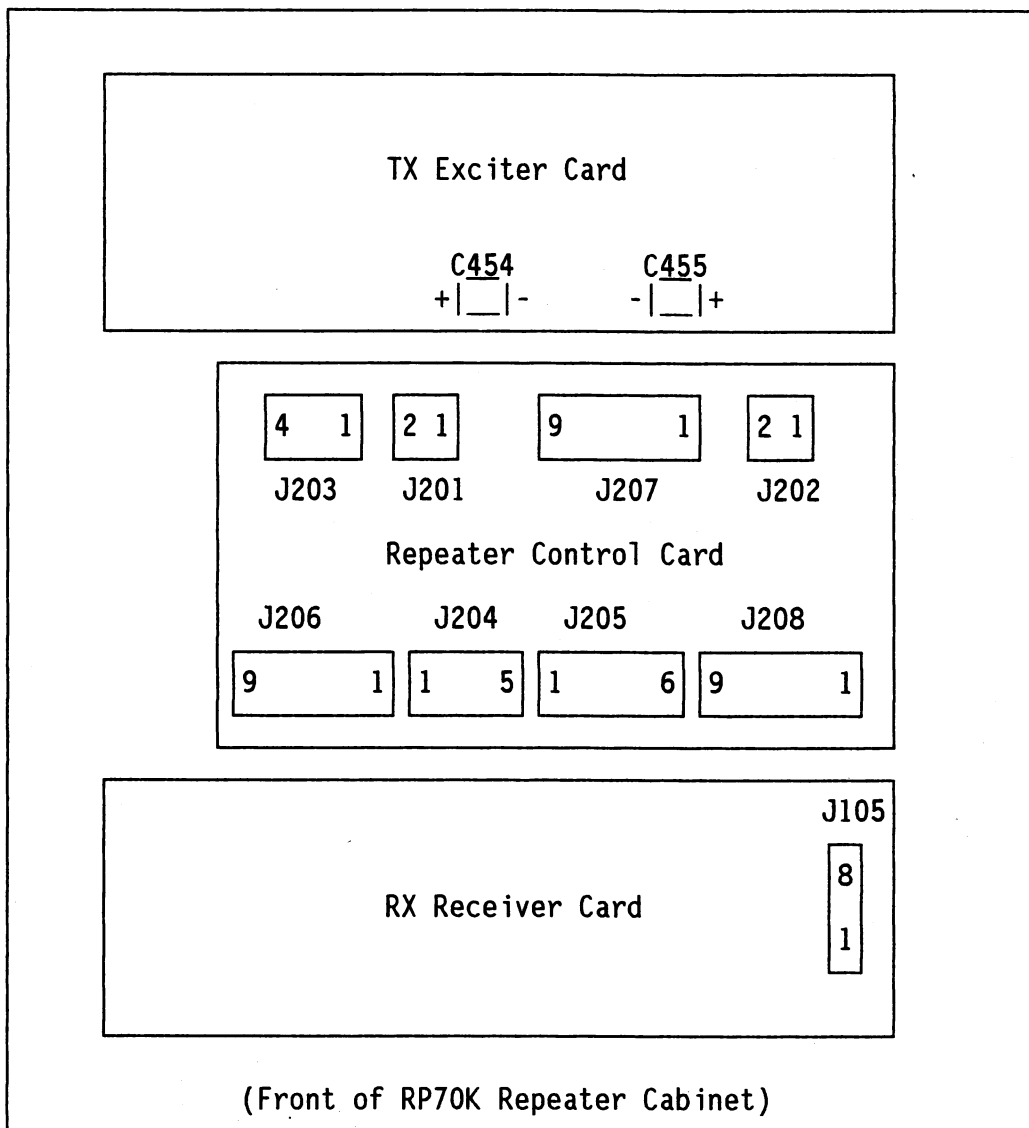

Figure 4-16. Layout of RP70K Cards and Connectors
- []6. Unplug W201 from J201 on the Control Card. Slide the Yellow wire out of W201 pin 2. Refer to Figure 4-16 for location of J201.
- []7. Unplug W207 from J207 on the Control Card. Slide the White wire out of W207 pin 6. Refer to Figure 4-16 for location of J207.
- []9. Plug connectors W201 [J201] and W207 [J207] back into place. Refer to Figure 4-16.
- []10. Unplug W205 from J205 on the Control Card. Slide the shielded cable from out of connector W205 pins 5&6. Cut the ends, strip back 1/16", and tin the leads. Refer to Figure 4-16 for connector location.
- []11. Unplug W105 from J105 on the Receiver Card. Slide Black and Yellow wires out of pins 1&2. Refer to Figure 4-16.
- []12. Solder the shielded cable from W205 to the wires from W105: White to Yellow, Black to Black. [RX Discriminator Audio] Refer to Figure 4-16.